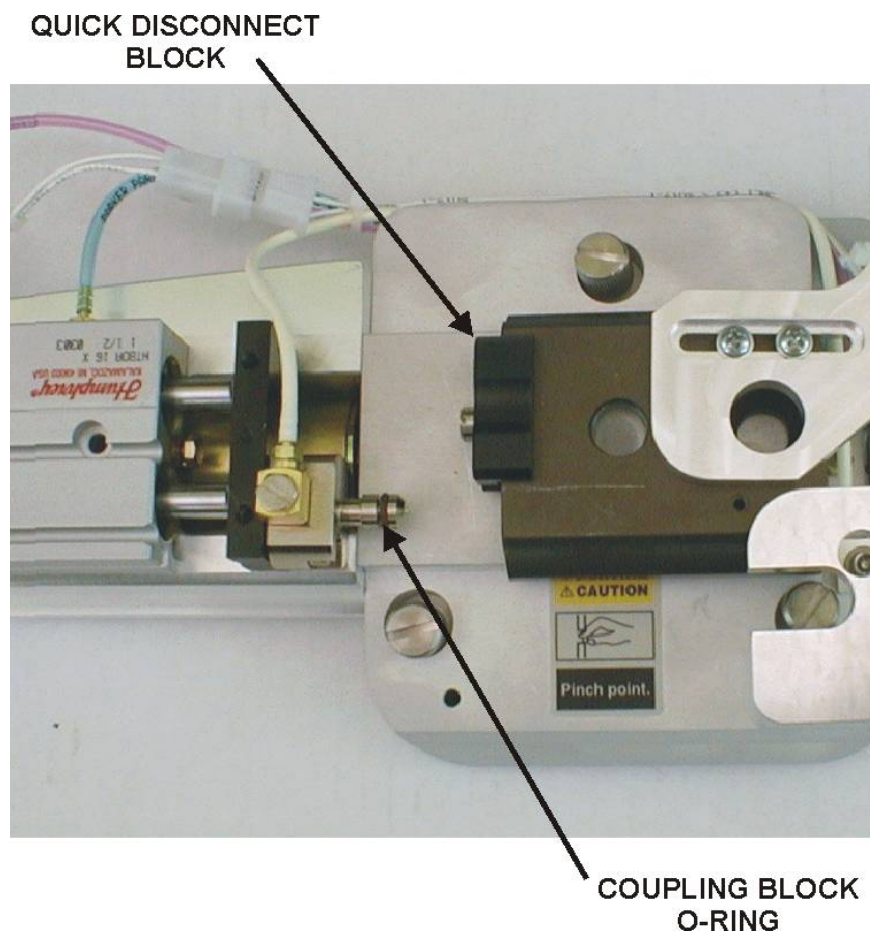

Figure 6-18
3. Screw the lance extractor tool into the small hole on the lance head and remove the lance, Figure 6-18, page 6-33.